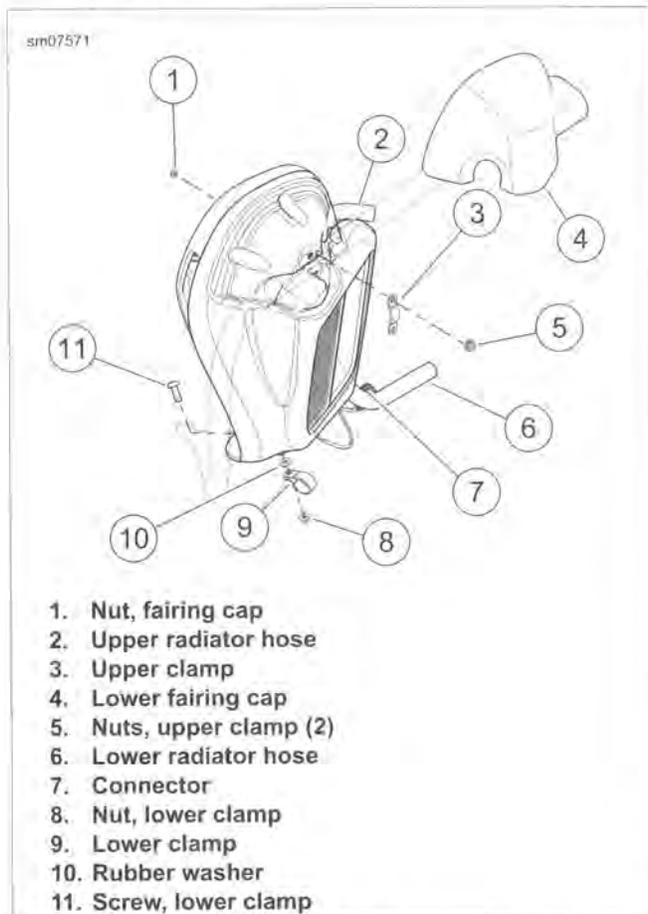
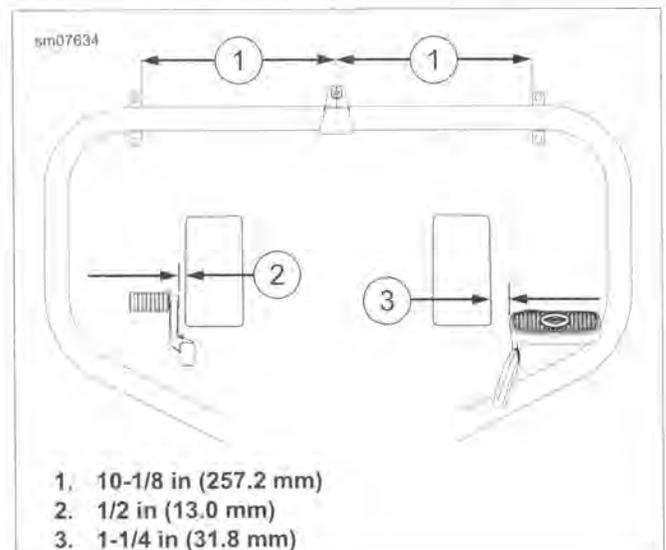

Figure 2-134. Lower Fairing: Twin-Cooled
Figure 2-135. Lower Fairing Mounting Dimensions
4. See Figure 2-134. Disconnect upper (2) and lower (6) radiator hoses from the upper cross tube and thermostat respectively.
5. Disconnect fan power connector (7) located near pump.
6. Remove flange nut (1) securing fairing lower cap (4). Remove fairing cap.
7. Remove fairing lower clamp screw (11) and nut (8). Discard rubber washer (10).
8. Remove flange nuts (5) securing upper clamp (3). Remove fairing lower assembly.
2. See Figure 2-134. Install upper clamp (3) and two flange nuts (5). Leave fasteners loose.
3. Install **new** rubber washer (10), clamp (9), screw (11) and nut (8). Leave fasteners loose.
4. See Figure 2-135. Align upper clamp to dimension (1).
5. See Figure 2-134. Tighten flange nuts (5) to 40-45 **in-lbs** (4.5-5.1 Nm).
See Figure 2-135. Verify shift lever and brake pedal do not contact fairing lower vent. Clearance from the vent openings to the shift lever (2) and brake pedal (3) should approximately match the distance shown.
6. See Figure 2-134. Verify that fairing lower is aligned. Tighten lower screw (11) to 90-100 **in-lbs** (10.2-11.3 Nm).
7. Install fairing lower cap (4) with flange nut (1). Tighten to 40-45 **in-lbs** (4.5-5.1 Nm).
9. Connect fan power connector (7) located near pump.
10. Connect upper (2) and lower (6) radiator hoses to the upper cross tube and thermostat respectively.